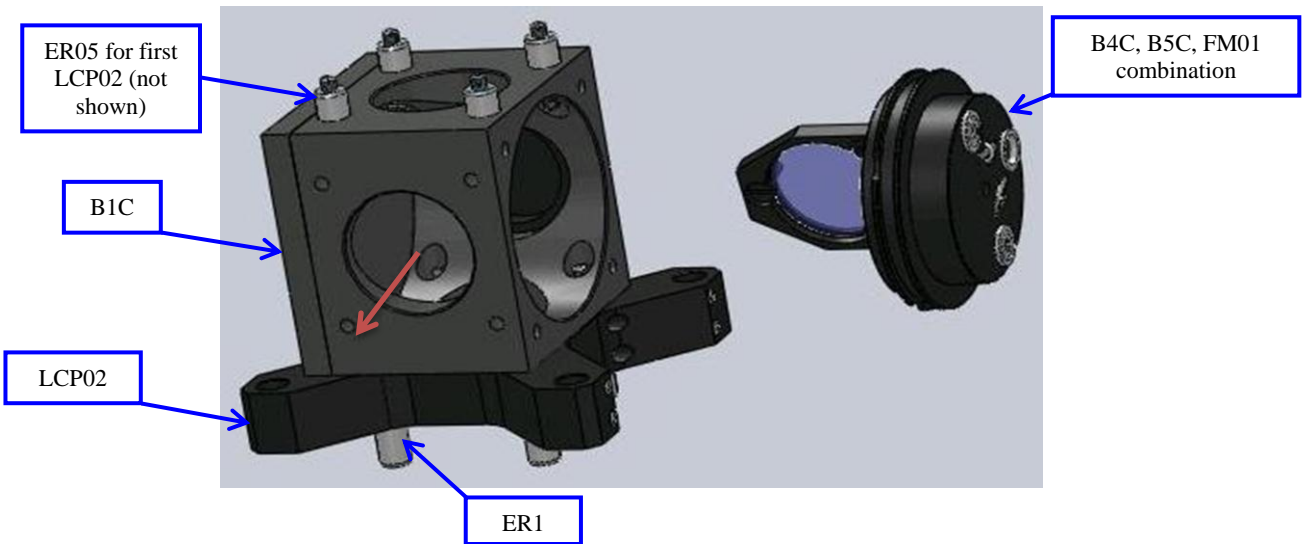

Figure 5.4.1: Building the condenser cube section
7. Connect another LCP02 to the four ER1 rods as shown in Figure 5.4.1 and lock these using the set screws on the LCP02.
8. Insert the ensuing assembly from step 2 above on one side of the C6W and coarsely align it so that the beam is reflected 90° to the left (if you look at Figure 5.4.1, reflection will be out of